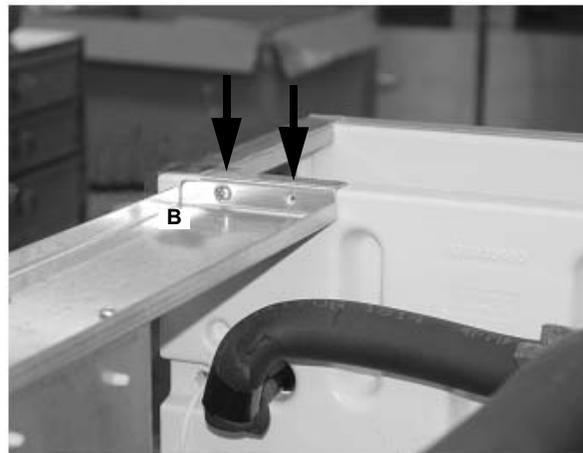

Figure 18.
14. Remove the 2 screws connecting the top support brace (B) to the evaporator bulkhead (Figure 18).